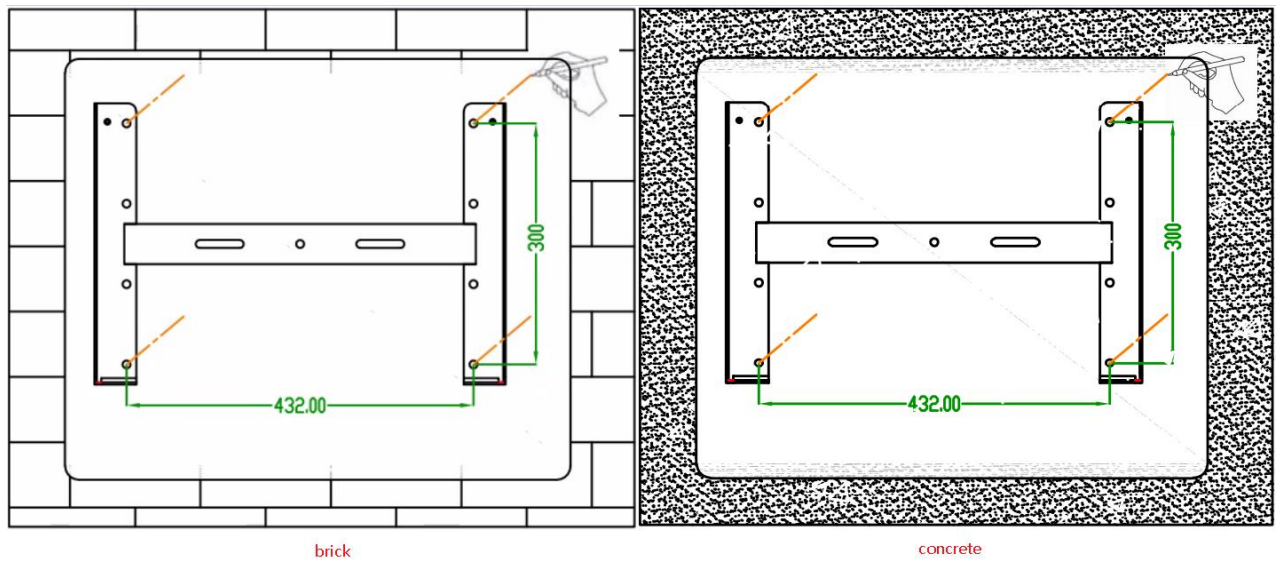

Figure 4-3
Step 1: Mark the screw hole position, refer to Figure 4-3